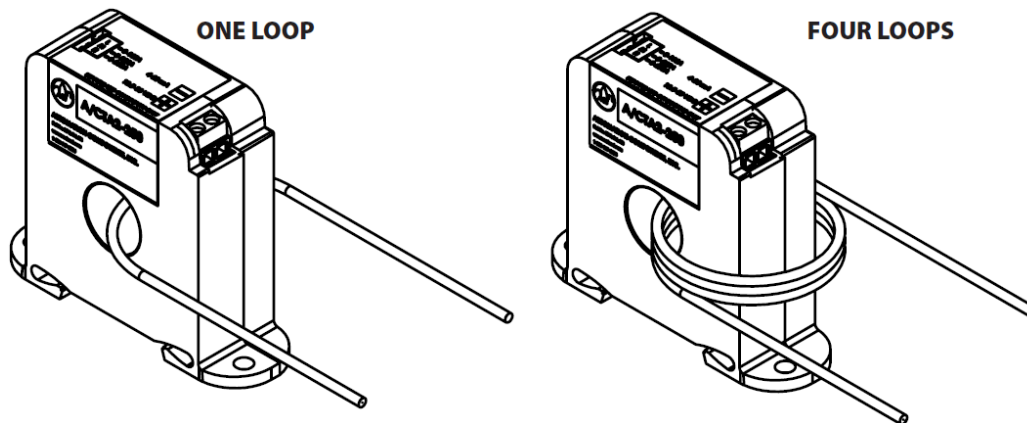

Figure 4
The conductor being monitored may be looped through the sensor multiple times. The loops increase the current measured by the current switch. Each time the conductor passes through the current switch window equals one loop (Figure 4). To determine the proper number of loops required, take the rated Fixed Trip Point of the current switch and divide it by the Operating Current of the Monitored Device, add one (1), then round up to the nearest whole number. Example: When using the NSA-A/ACS2, a small fan operating at 0.1A should be wrapped through the sensor four times to give you a total operating current of 0.4 Amps flowing through the NSA-A/ACS2. Formula Example:  $(0.25A/0.1A) = 2.5 + 1 = 3.5$ , which rounded up equals 4 loops.